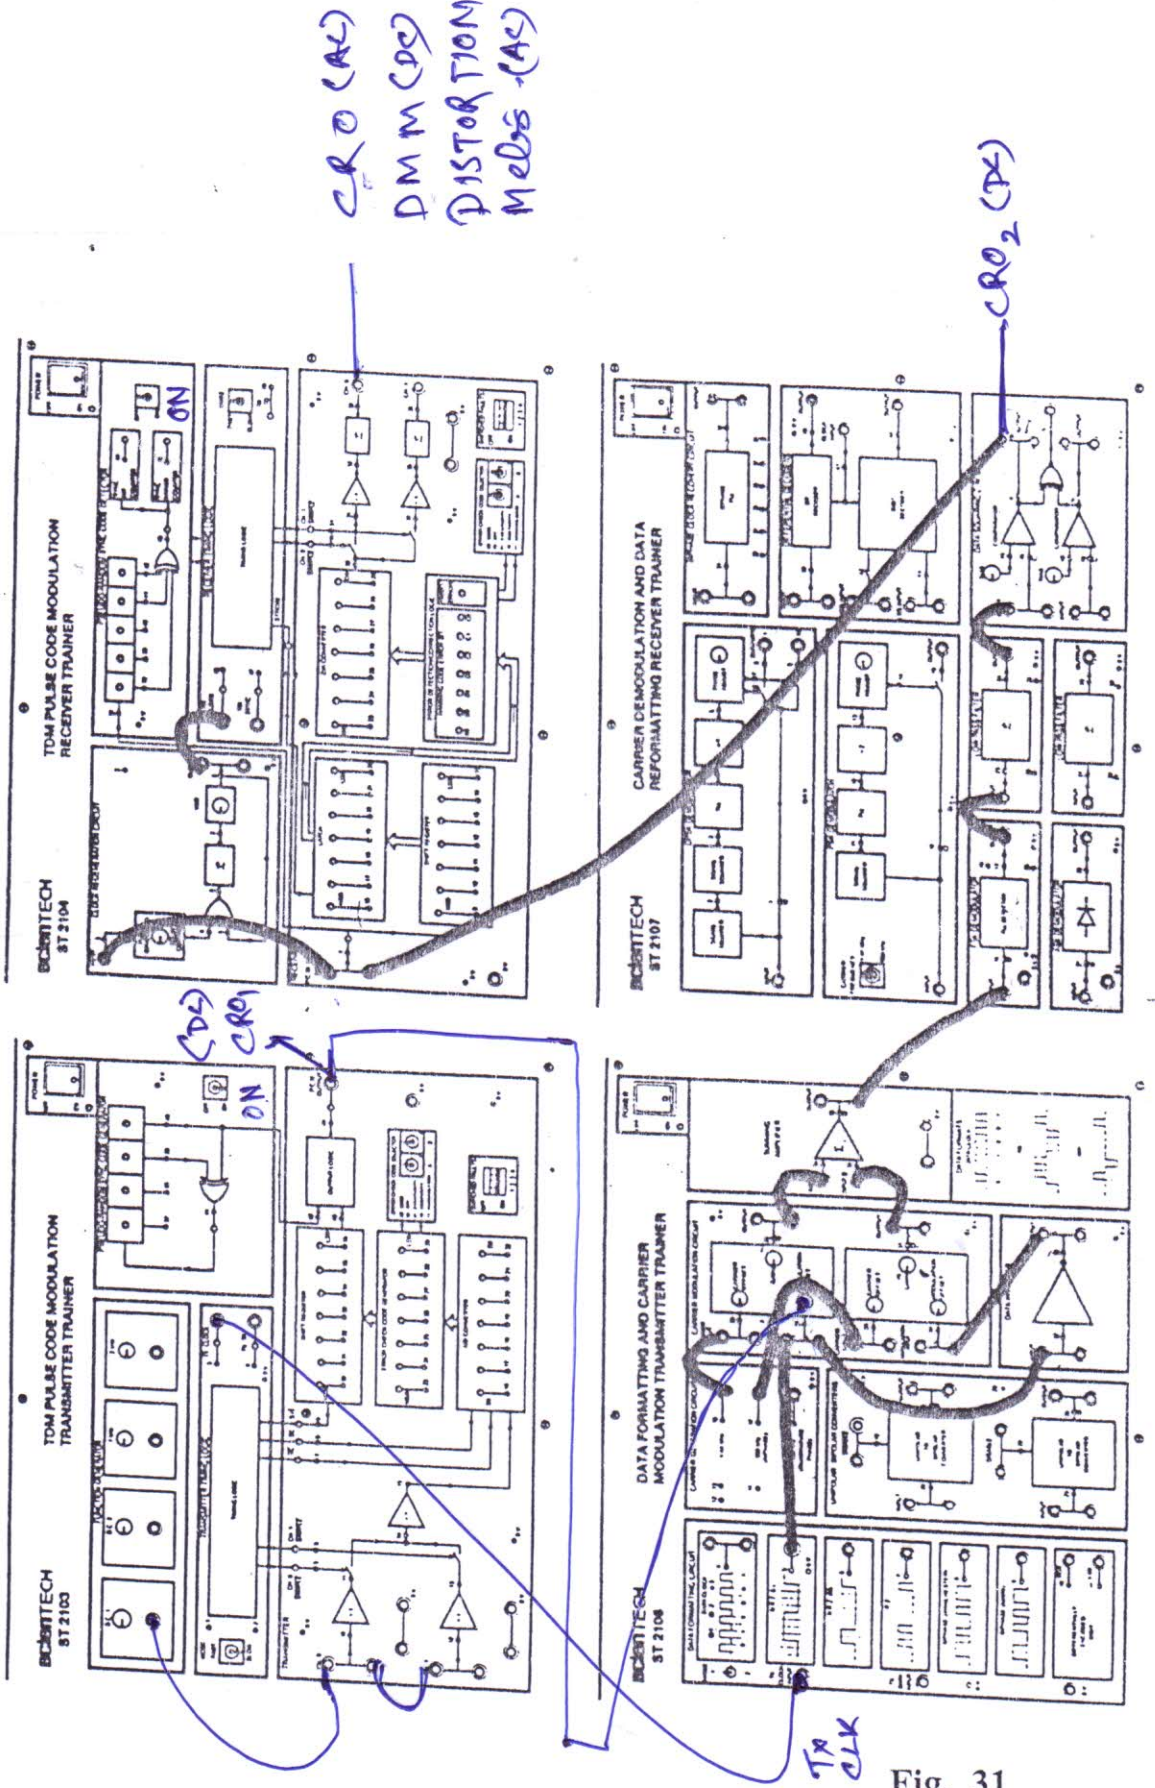

Fig. 31
(14) Switch OFF the power. Make the additional connections as shown in Fig. 31 as follows :